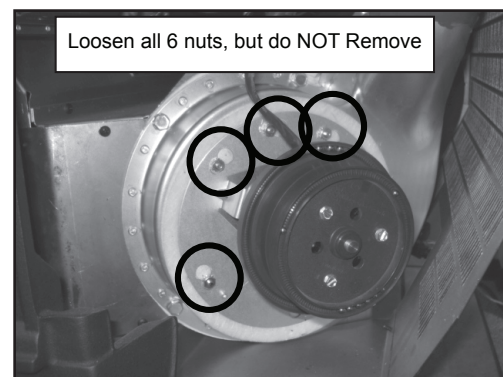

Figure 26.4
2. Remove side panel and then using an 11/32 nut driver to loosen all six nuts, but do not remove. Rotate the blower and remove from the housing. **Figure 26.4.**